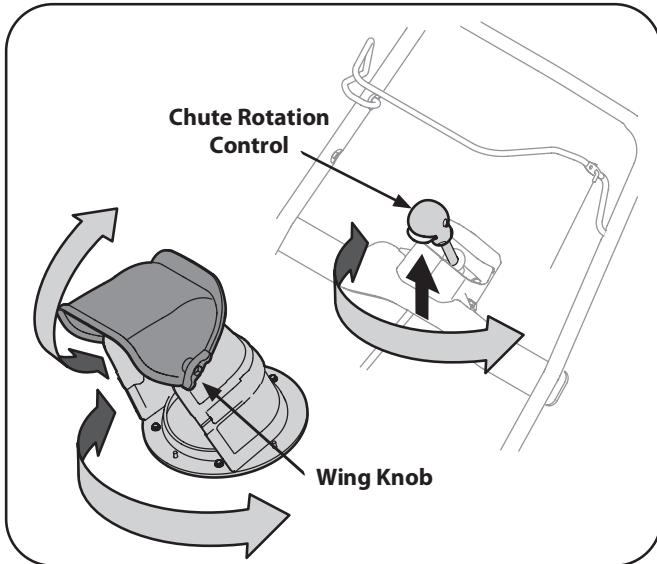

Figure 5-2
- Rotate the discharge chute to the left or right using the chute rotation control. See Fig. 5-2.